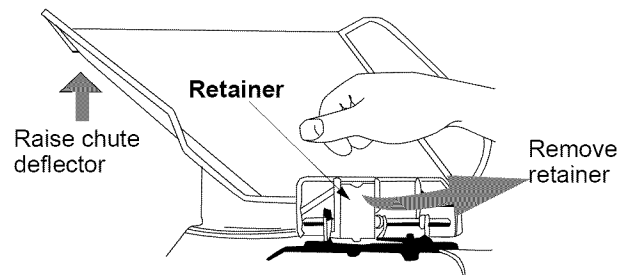

Figure 2
1. Push the chute deflector up towards the engine. Holding the deflector in this position, remove the retainer. See Figure 2. Discard the retainer.